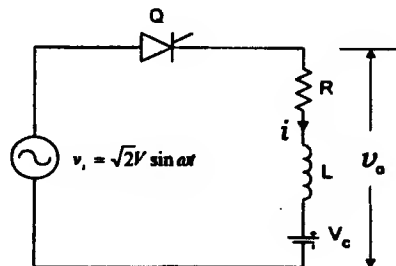

Figure 1: A Half-wave rectifier.
1. A half-wave controlled rectifier is shown in Figure 1. The thyristor, Q is fired at $\alpha = 45^\circ$ during each cycle. The rms value of the source voltage is 120 V. Consider $V_c = 24$ V, $L = 12$ mH and $R = 6 \Omega$.